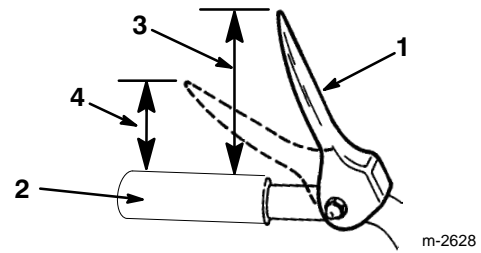

Figure 10
- Check the distance between the top of the handgrip and the bottom of the auger/impeller control lever. The distance should be approximately four inches (10.2 cm) (Fig. 10).
The amount of force to compress the lever will increase noticeably when you remove the slack from the drive belt (approximately one-half of the lever movement). The adjustment is correct when the force **begins** to increase and the distance between the top of the handgrip and the bottom of the auger/impeller control lever is two inches (5 cm) (Fig. 10).